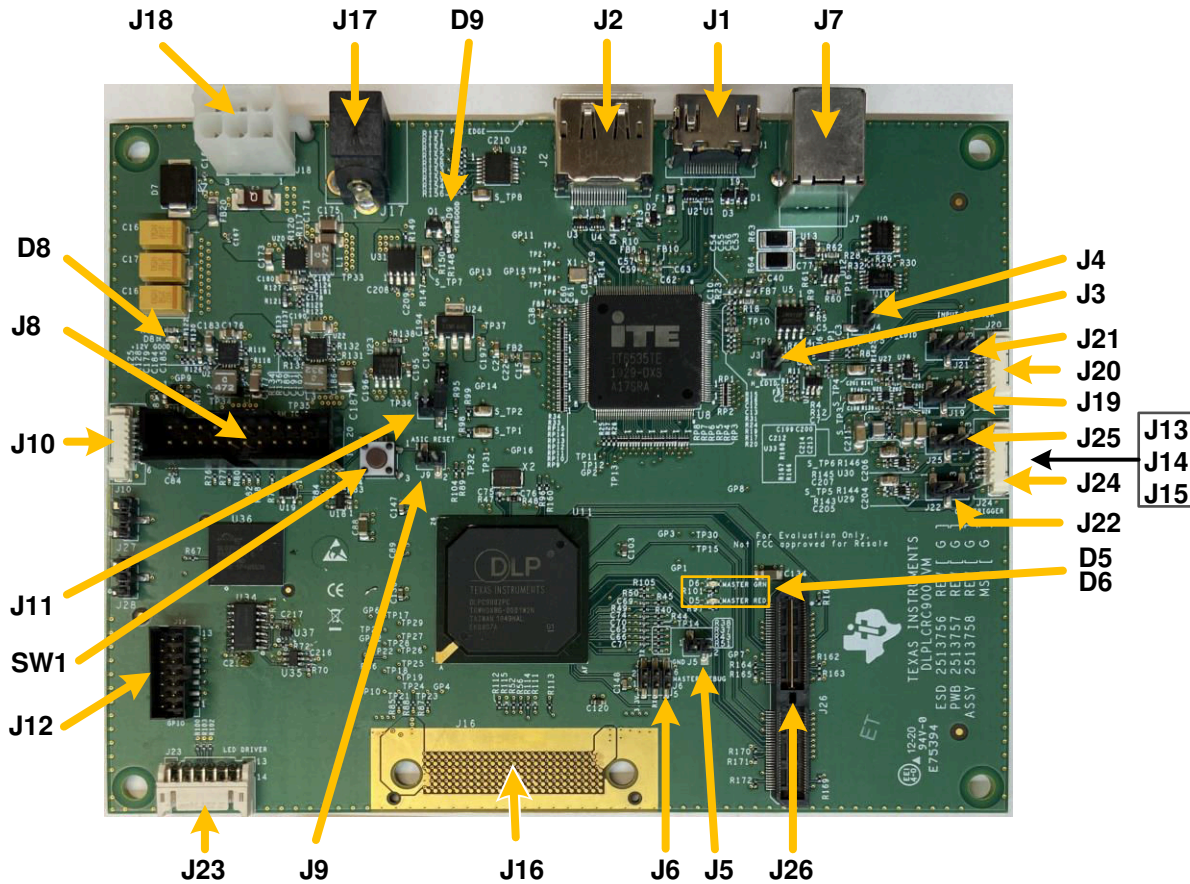

Figure 1-3. DLP LightCrafter Single DLPC900 EVM Connectors (Top View)
Figure 1-3 depicts the switches and connectors with their respective locations. Note: Power supply (and cable), USB cable, and display cable are NOT included with the module.
1. Connect a 12-V DC power supply to the power supply connector J17 in Figure 1-3.
5. Connect a USB cable from a PC to connector J7 on the DLP LightCrafter Single DLPC900 EVM, as seen in Figure 1-3. The first time the cable is connected on a PC, the DLP LightCrafter Single DLPC900 EVM enumerates as a USB composite device with human-interface device (HID) class. No drivers are required since these are natively handled by all operating systems.